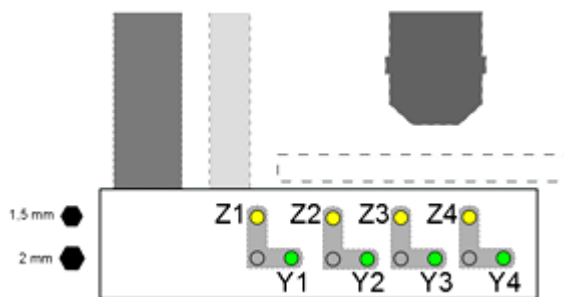

Figure 2-17: Adjustment screws
- Set the sheet width to the minimum. Both lateral beams should be directed to the centre of the mask. If this is not the case, the position in the Y direction must be adjusted (Y2 for mirror No. 2 and Y4 for mirror No. 4, Fig. 2-17). Use a 2 mm Allen key.
- Now adjust the height of both beams sequentially to the centre of the pinhole in the mask, using the μ -screws (Z2 for mirror No. 2 or Z4 for mirror No. 4, Fig. 2-17).